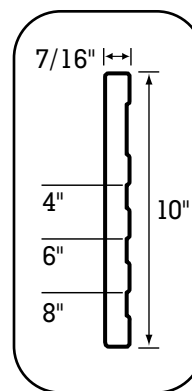
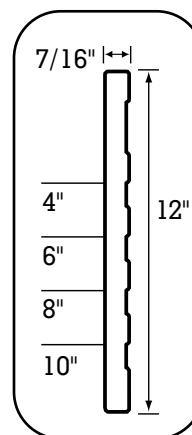

Fig. 45
Fig. 46
- If needed, use guides on back to rip to width as shown (Fig. 45 and Fig. 46).